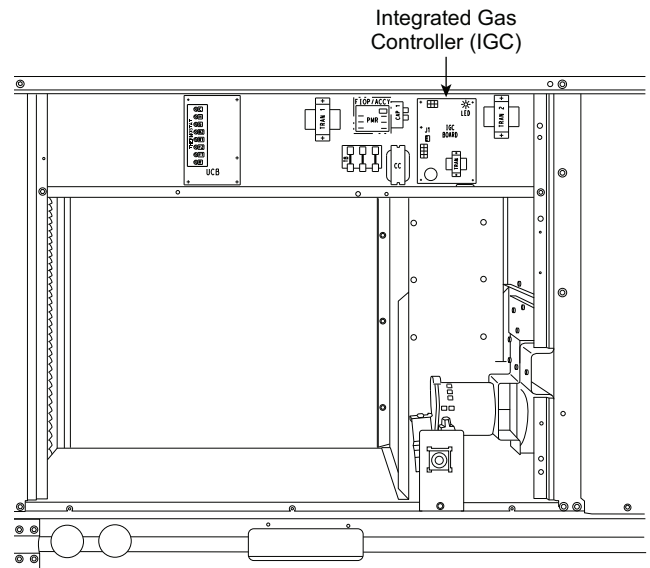
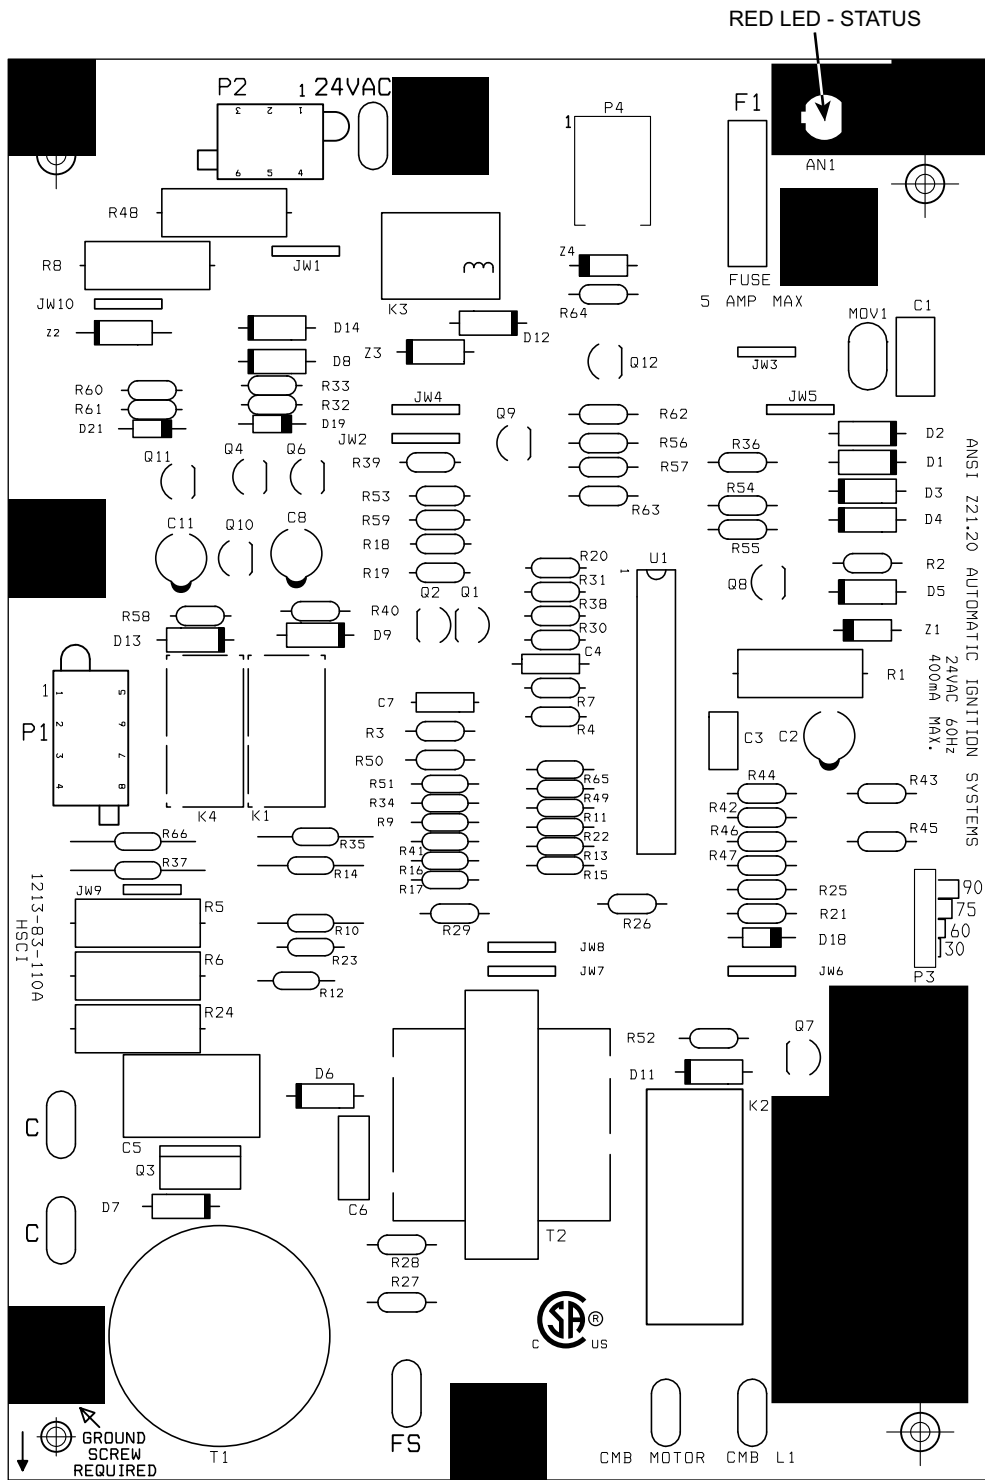

Fig. 58 — Unit Control Box/IGC Location
Fig. 61 — Integrated Gas Control (IGC) Board
8. Remove igniter wires and sensor wires at the Integrated Gas Unit Controller (IGC). (See Fig. 58.)
Unit is equipped with a direct spark ignition 100% lockout system. The Integrated Gas Unit Controller (IGC) is located in the control box (see Fig. 58). The IGC contains a self-diagnostic LED (light-emitting diode). A single LED (see Fig. 61) on the